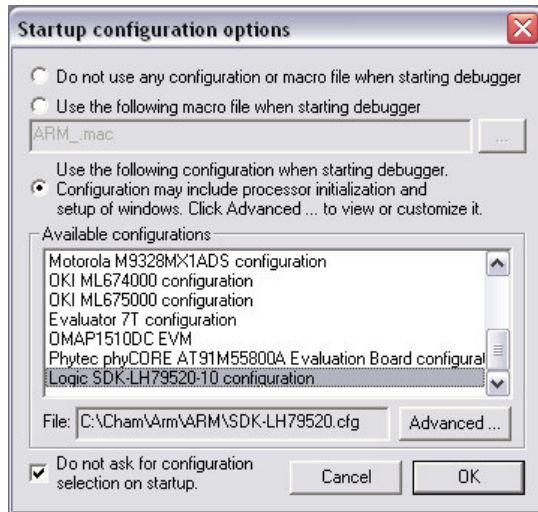

FIGURE 3 Selecting the startup configuration for the Logic SDK-LH79520-10 module in Chameleon Debugger.
2. In the system startup configuration step (the Startup Configuration Options dialog box), select Logic SDS-LH79520-10 Configuration. See Figure 3.